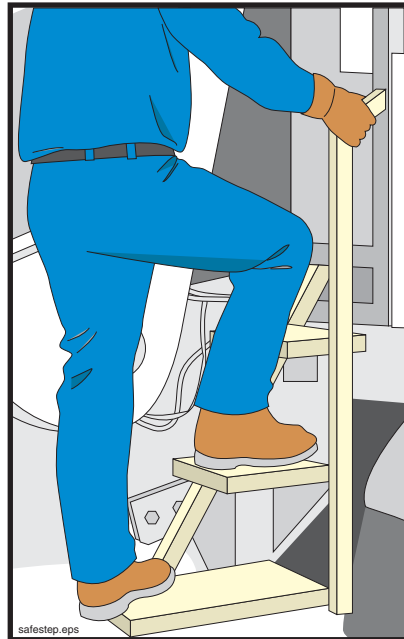

Figure 35
- 13.13** **⚠ WARNING** Remember to mount and dismount the unit using the “3 Point Rule.” One hand and two feet or two hands and one foot are to be in contact with a secure surface at all times (Figure 35).